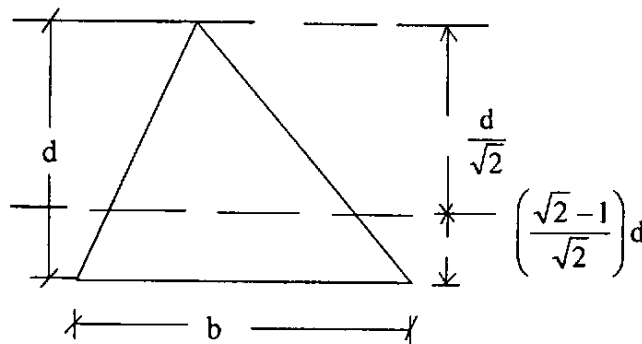

Fig. 2
Q. 7(a) (ii) Prove that the shape factor for a triangular beam section as shown in Fig. 2 is 2.352.